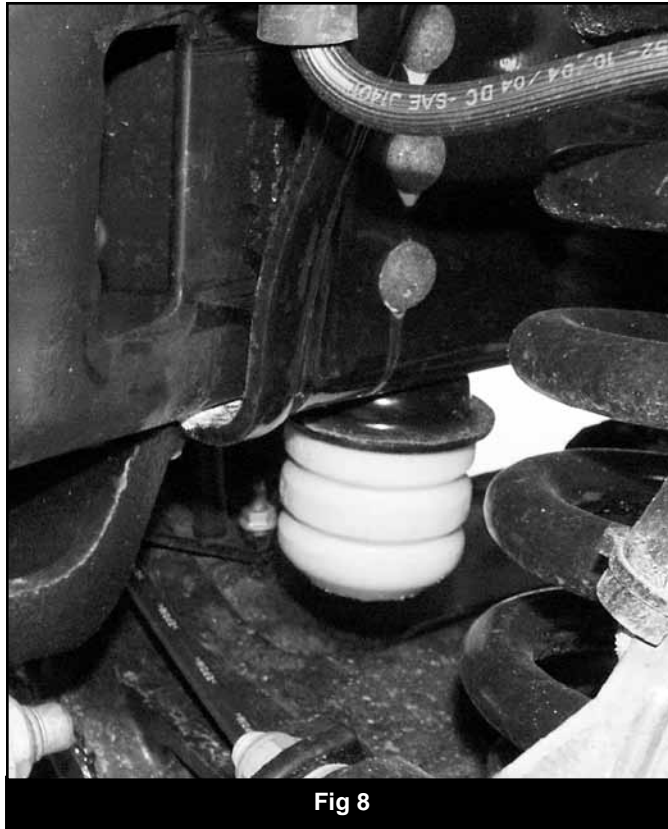

Fig 8
22. Pull the OE front bump stops free from the bump stop cups and remove the bolt mounting the cup to the frame (Fig 8).